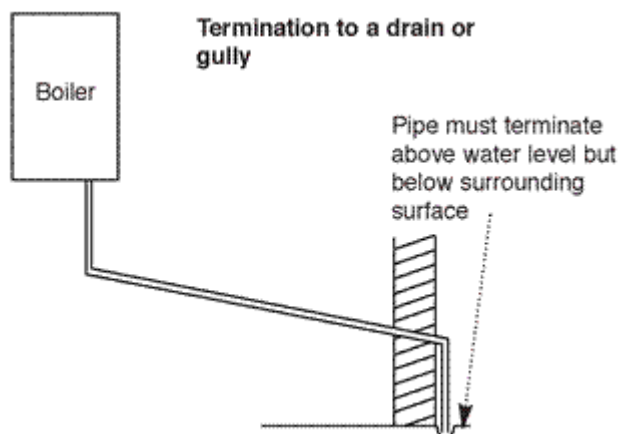

Fig 6
- iii. to a drain or gully - Fig. 6.